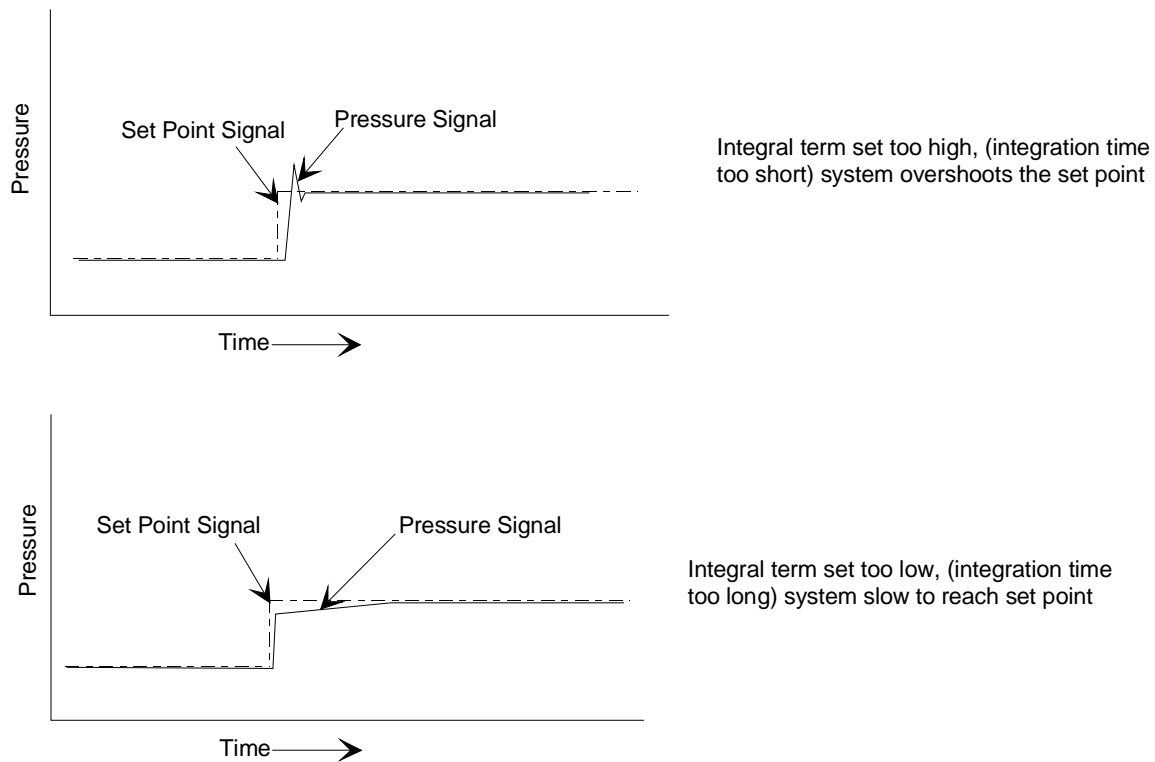

Figure 9: Effects of the Integral Control
The action of the Integral (I) term creates a valve drive signal that is proportional to the magnitude and sign of the area under the error signal curve (error signal with respect to time). Therefore, as time passes, the integral term acts to position the valve to reduce the error signal to zero. An increase in the integration time increases the period of time over which the error signal is generated, and the system response gets slower. Figure 9 shows the effects of the Integral term.